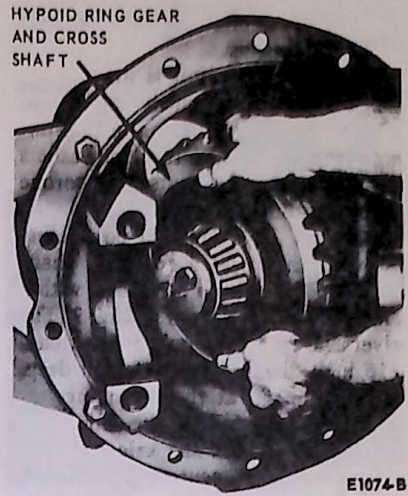

FIG. 14 Removing Rear Gear and Cross Shaft
17. Carefully slide the hypoid ring gear and cross shaft toward the bearing cap bore, and then remove them from the carrier as shown in Fig. 14.